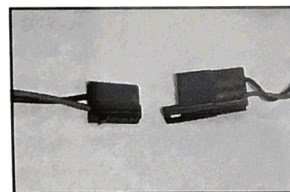

FIG. 5.2
- 5.2 Per fig. 5.2, insert the wire harness connector plug into the wiper motor connector receptacle until the locking tabs snap together.